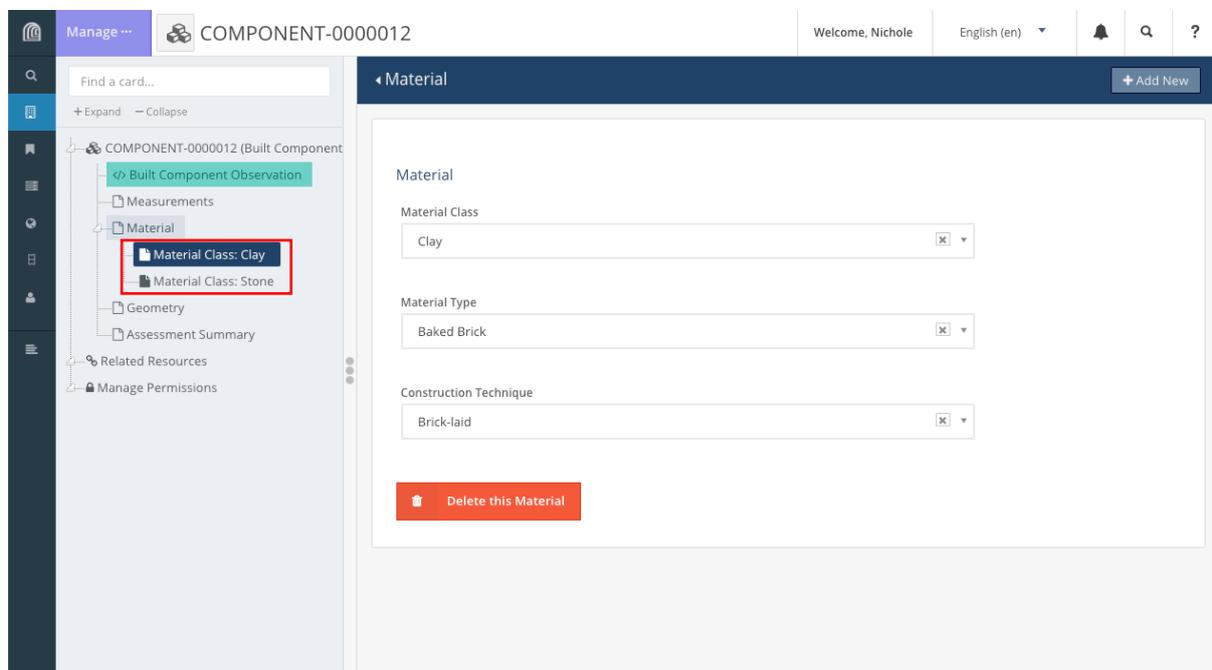

Figure 8
- Each recorded material will appear as an entry in the Card Tree below the 'Material' card (Figure 8)